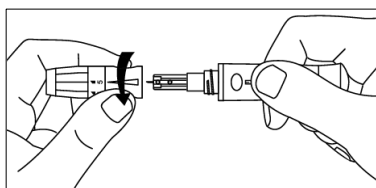

Fig 5.32
Step 4: Carefully screw the lancing device cover back to the lancing device. Avoid contact with the exposed needle. Make sure the cover is fully seated on the lancing device. (Ref Fig 5.32)